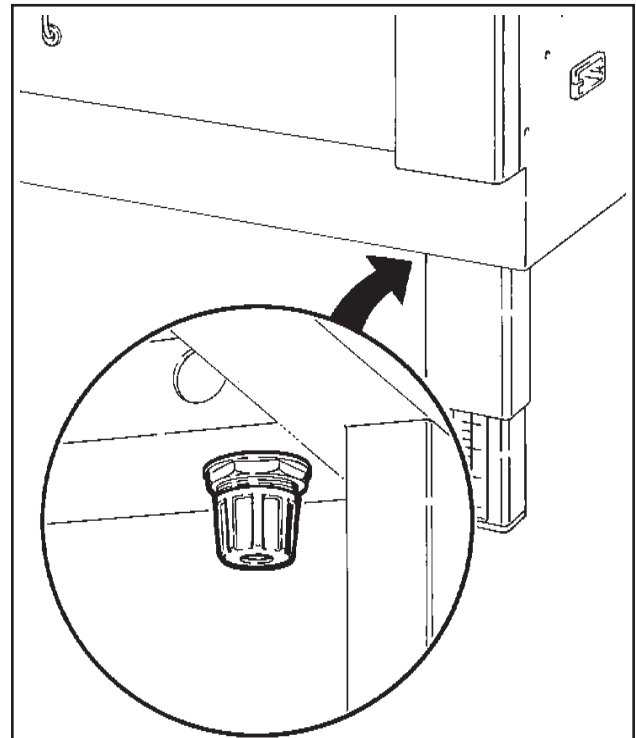

Figure 13-3 Gate Pressure Regulator
13.5 Gate Pressure Regulator (Figure 13-3)